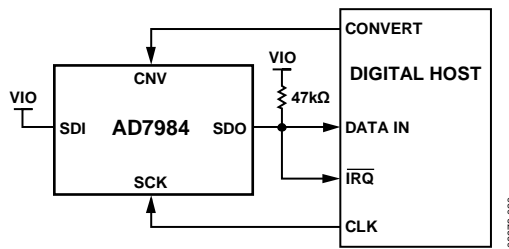
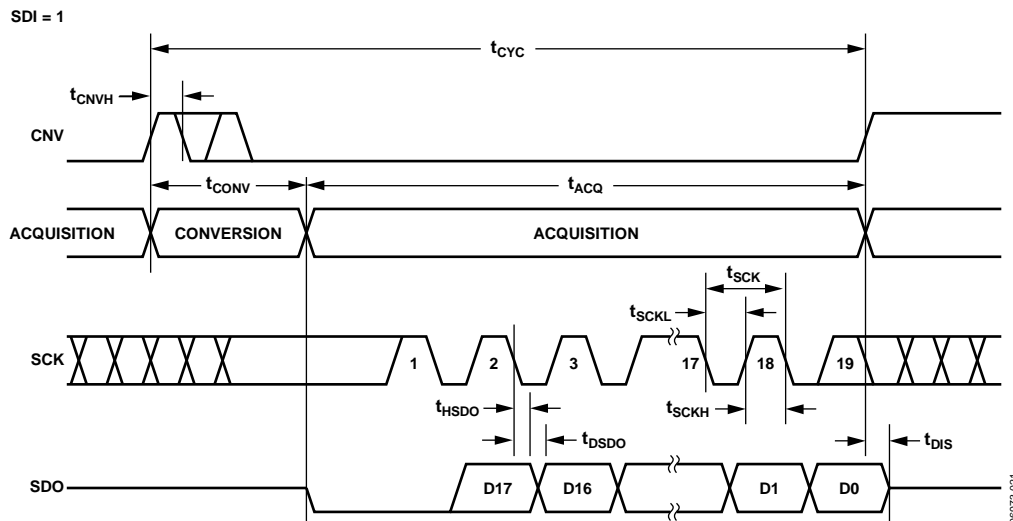
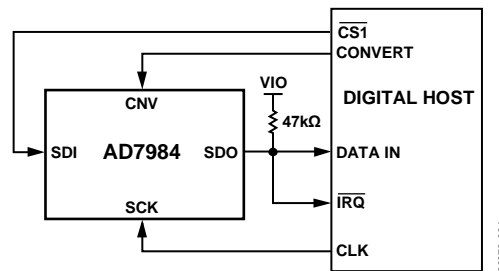
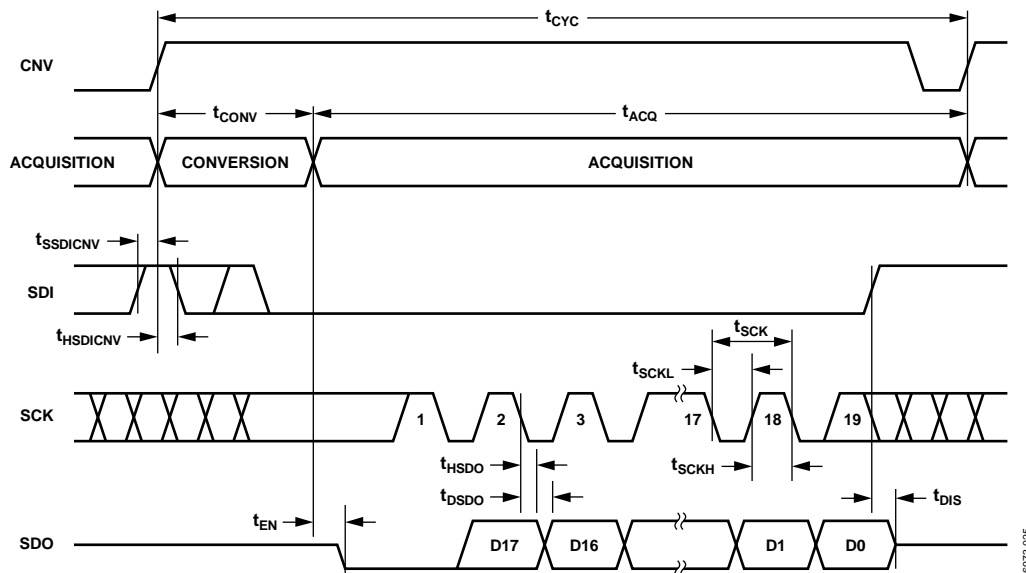

Figure 29.  $\overline{CS}$  Mode, 3-Wire with Busy Indicator Connection Diagram (SDI High)
Figure 30.  $\overline{CS}$  Mode, 3-Wire with Busy Indicator Serial Interface Timing (SDI High)
Figure 33.  $\overline{CS}$  Mode, 4-Wire with Busy Indicator Connection Diagram
Figure 34.  $\overline{CS}$  Mode, 4-Wire with Busy Indicator Serial Interface Timing
- In  $\overline{\text{CS}}$  mode if CNV or SDI is low when the ADC conversion ends (see Figure 30 and Figure 34).
The connection diagram is shown in Figure 29, and the corresponding timing is given in Figure 30.
The connection diagram is shown in Figure 33, and the corresponding timing is given in Figure 34.